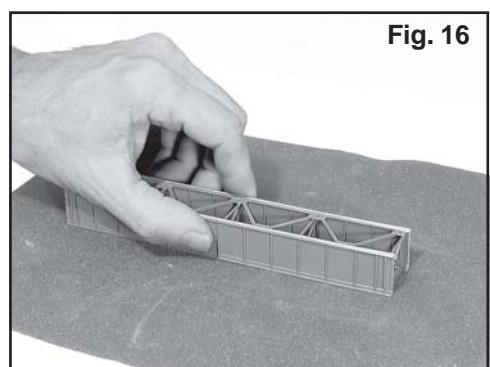

Fig. 16
17. After the cement has dried sufficiently, place the span on a sanding block and sand off the draft angle and parting line from the edges of the top, bottom, and ends of the girders. See fig. 16.